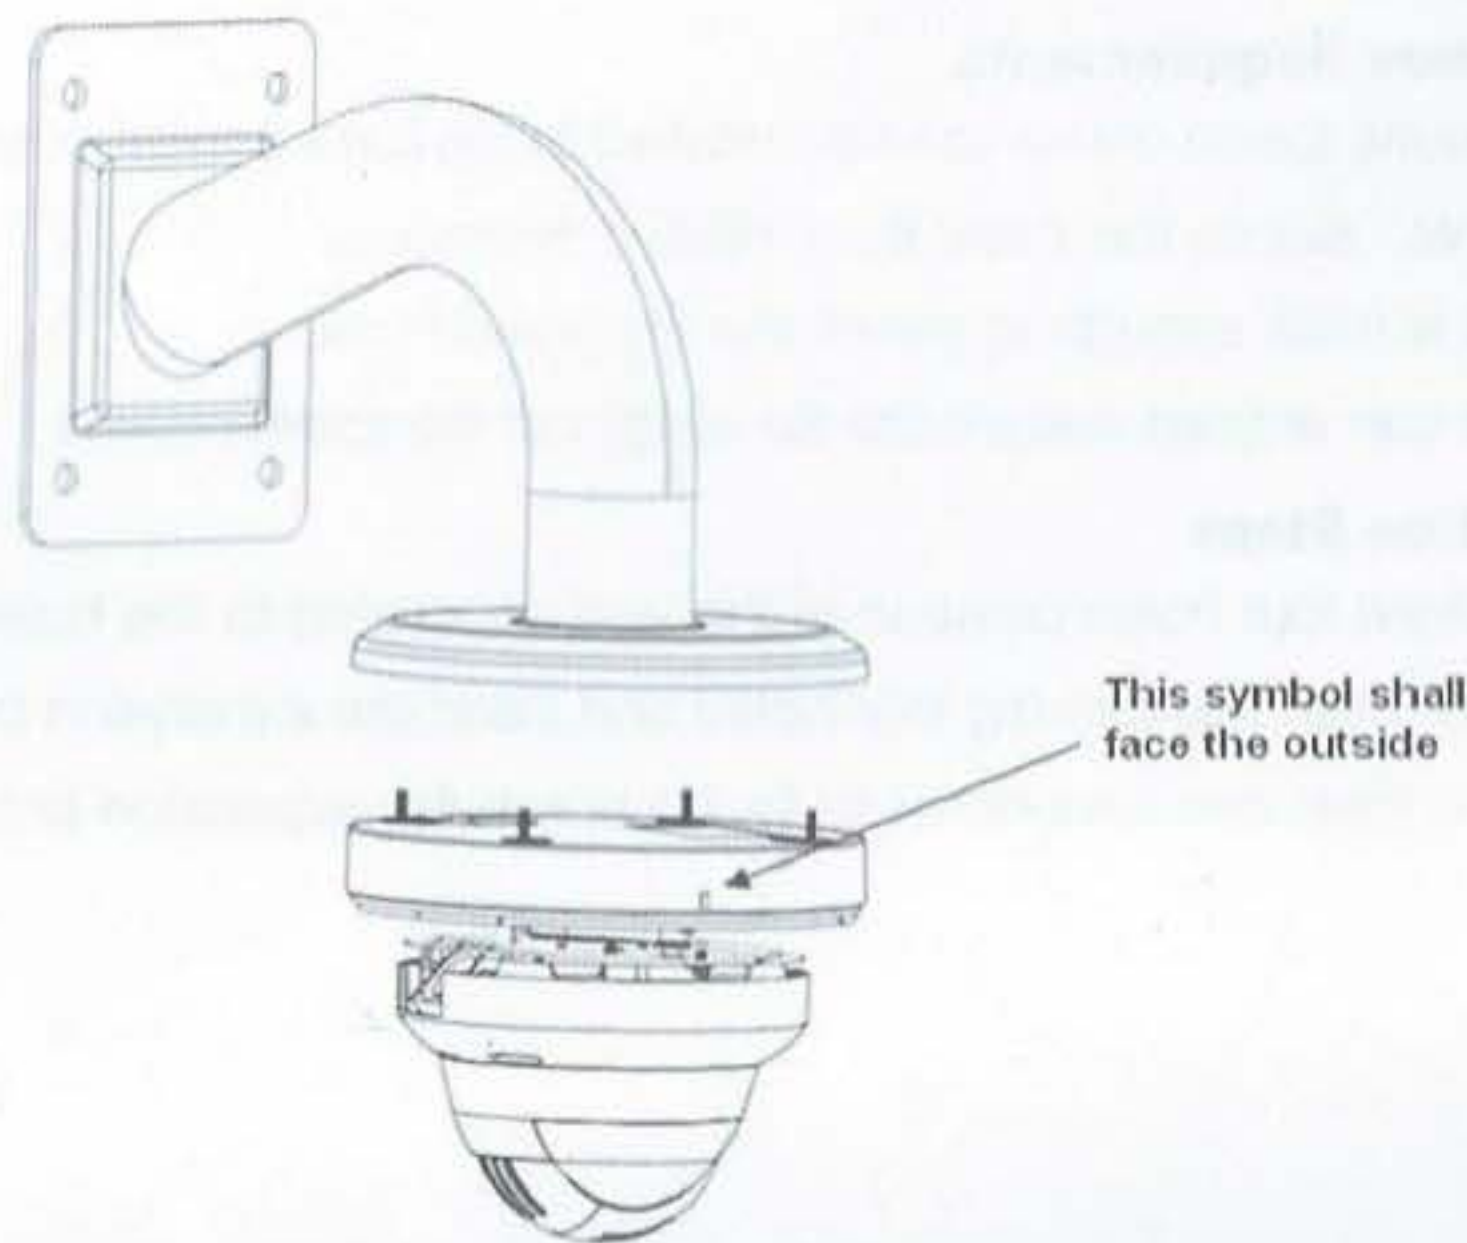

Figure 4-3
2) Connect the adapter block to the internal thread of the wall mount bracket. Pull the intelligent speed dome composite cable through the adapter block and end of the column of the wall-mount bracket and pull it out of the other end of the wall mount bracket. Line up the pedestal to the internal hole of the adapter block. Insert four screws and rubber washer. See Figure 4-3. Please make sure the cable exit is at the rear end of the wallmount bracket (or the arrow is at the front of the bracket). Please note this step is veryimportant. Please make sure the screws are firm, otherwise, it may result in falling risk of the intelligent speed dome.